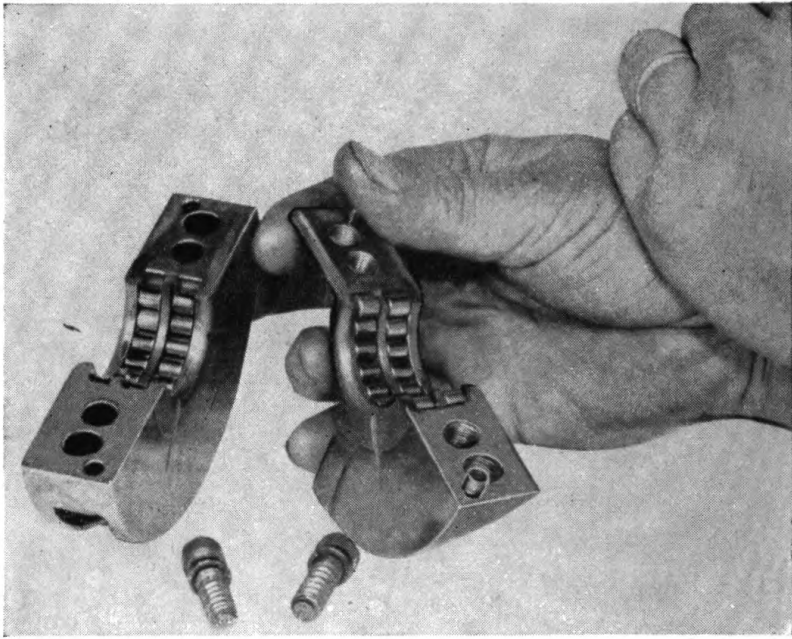

Figure 67. Halves of center bearing. (Note roller bearing in center-bearing retainers.)
o. INSTALLING CRANKSHAFT IN CRANKCASE. (1) Clean all parts with cleaning solvent so they are free from chips, grit, and dirt. If new parts are used, remove all burrs and sharp edges.
(2) Put ball bearings in a pan of cleaning solvent. Keep them there until needed.
(3) Assemble center-bearing retainers to center bearing, making sure marked half-pairs are assembled together properly.
(4) Now place roller retainer into center bearing. Assemble center-bearing seal as shown in figure 67. The halves should come together at ends marked with a punch.
(5) Add more heavy oil and assemble rollers into the halves' center-bearing retainer, or race. There are 34 rollers in this assembly.